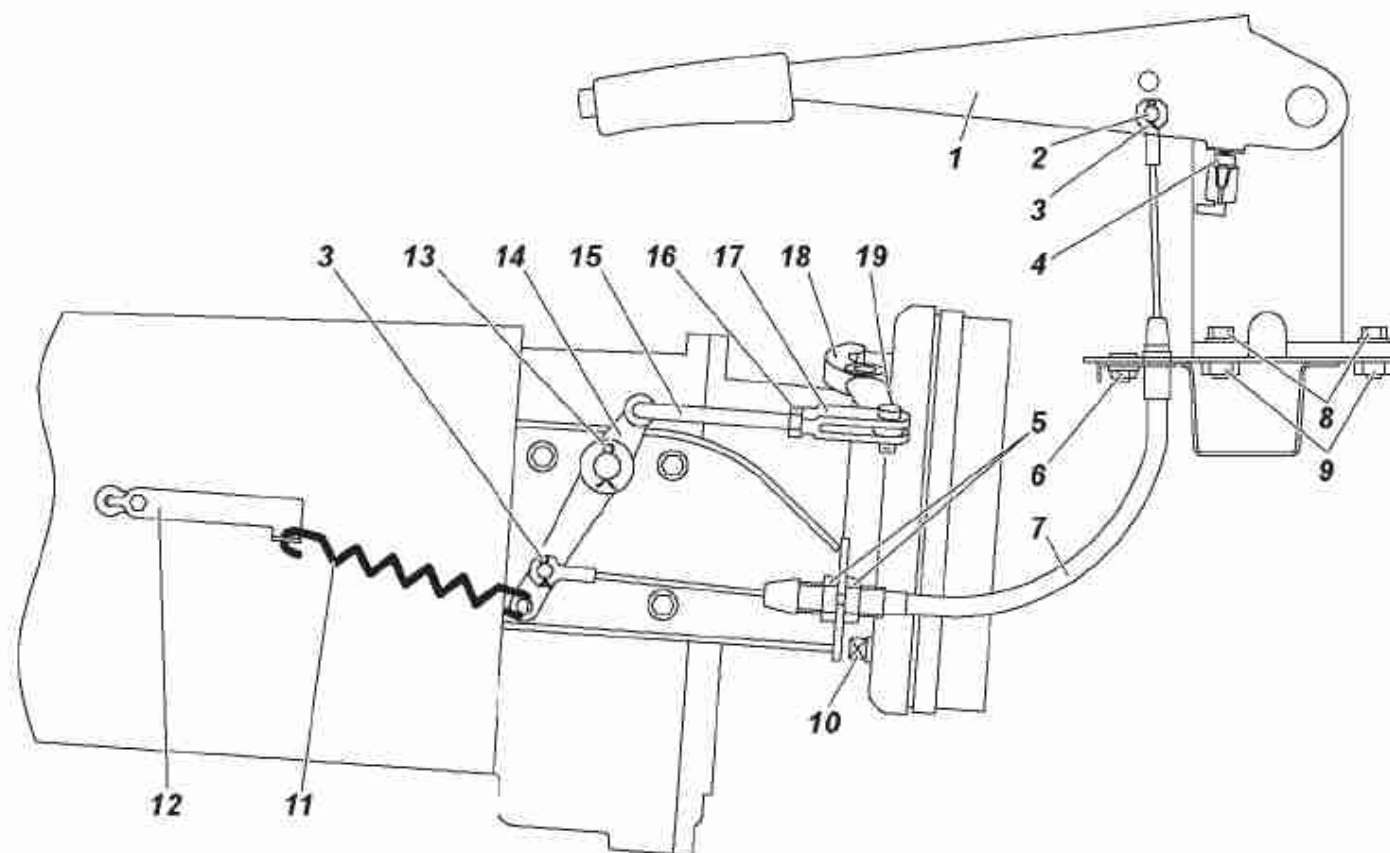

Fig. 9.28. Drive-line parking brake drive:
Drive-line parking brake, affecting the driving system (Fig. 9.28).
2. Lower parking brake lever 1 (Fig. 9.28) into its extreme position.